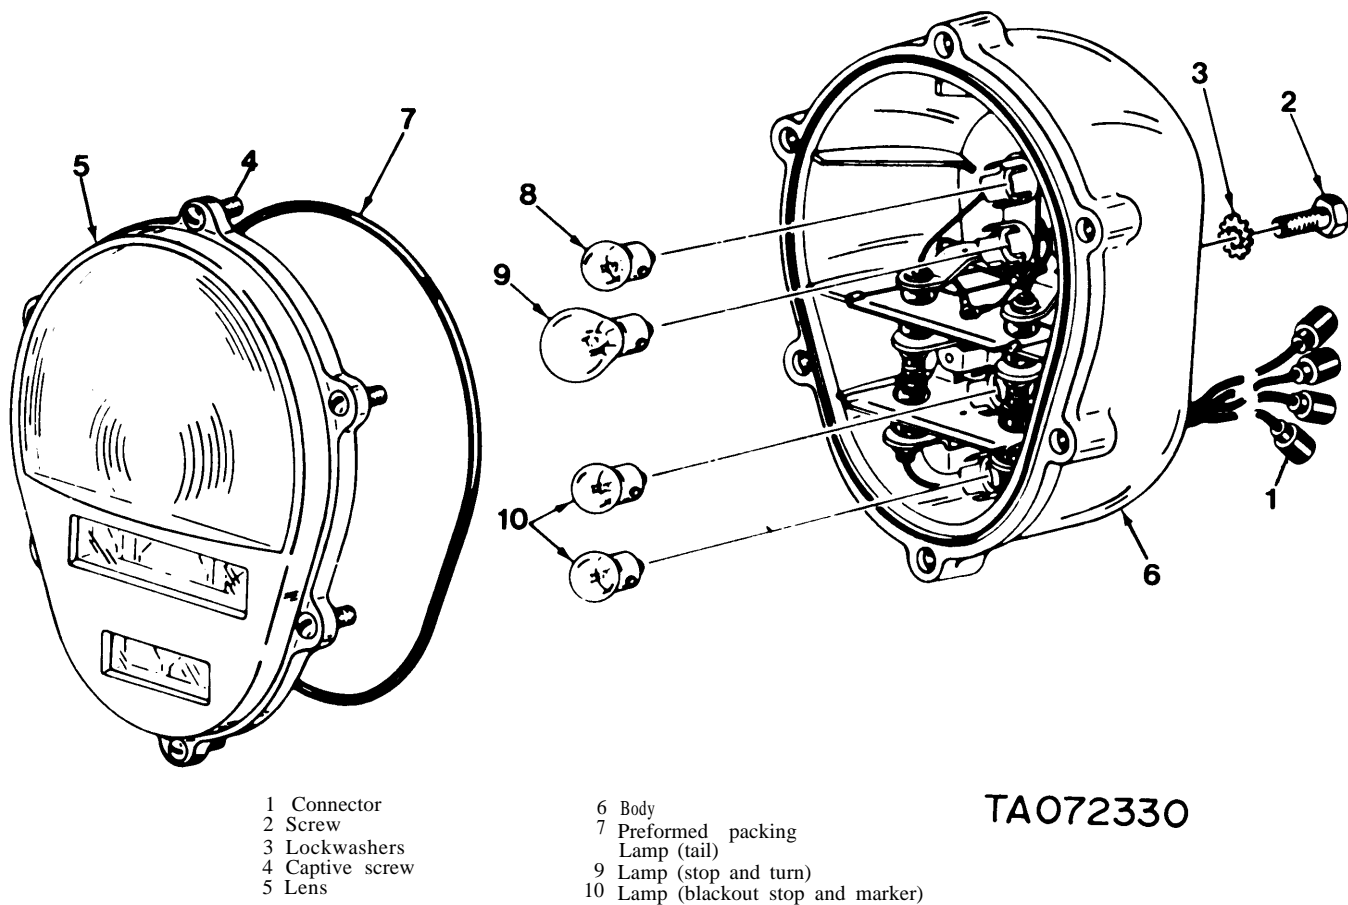

Figure 4-10, Composite stoplight-tailight assembly,
(1) Secure blackout stoplight to mounting bracket with screw (2) and lockwasher (3).
(2) Connect cable connector (1) to chassis wiring harness.
(3) Attach mounting bracket to semitrailer with four mounting screws.
(4) Test operation of light.
(5) Position door (5) and gasket (6) on body (7) and secure with two screws (4), making certain lens is positioned properly.
**4-17. Composite Stoplight-Taillight Assembly (fig 4-10)**
(1) Remove eight capscrews and lockwashers that secure the taillight mounting bracket to the semitrailer.
(2) Disconnect four taillight connectors (1) from chassis harness.
(3) Remove two screws (2) and lockwashers (3) securing stoplight-taillight assembly to mounting bracket and remove light.